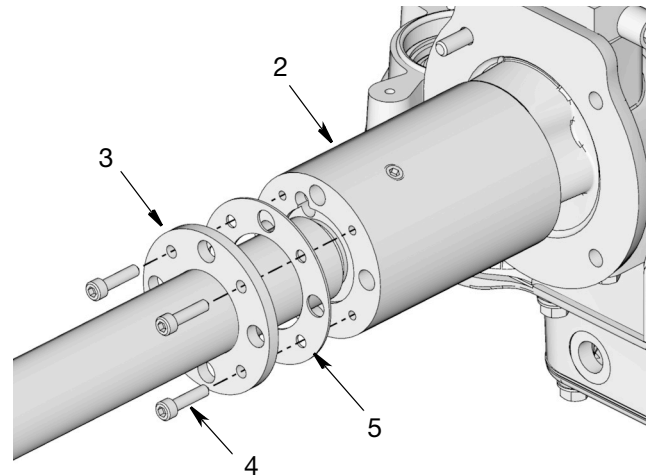

FIG. 49
25. **For Tube-In-Tube models only:** Install the gasket (5) and Tube-In-Tube (3). Secure Tube-In-Tube to the pump adapter (2) using the screws (4). Use a socket to tighten the bolts securely (FIG. 49). Torque to 7 to 9 ft-lb (9 to 12 N•m).